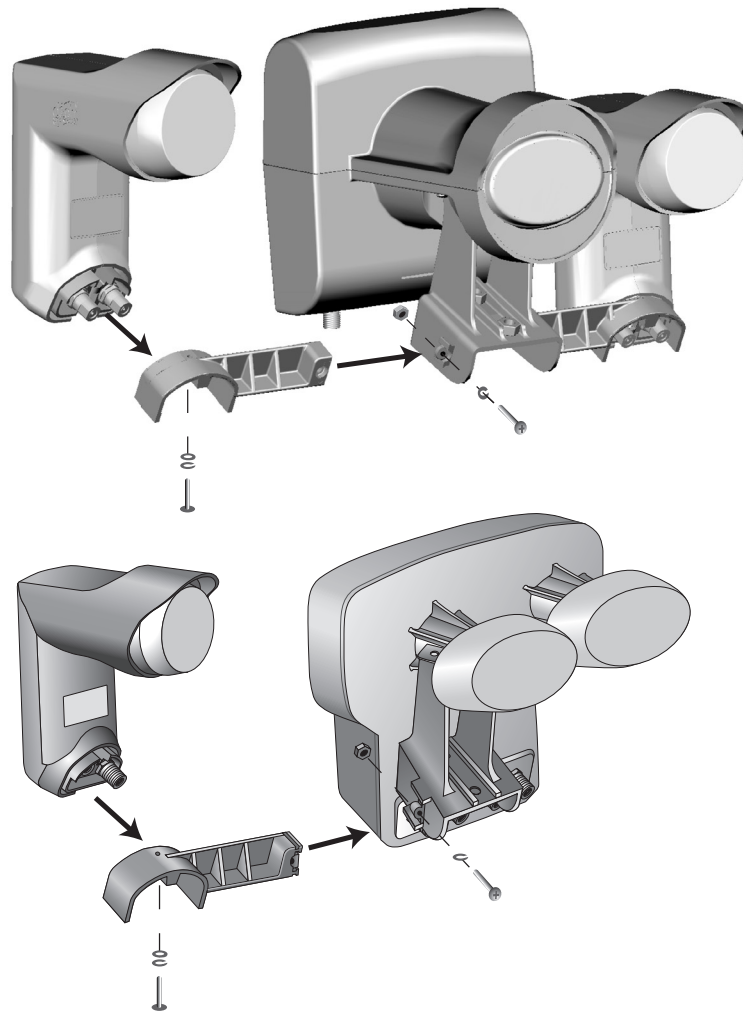

Figure 4. Optional bracket for attaching DP Dual (or DP Single) for 129°W
- 9. For DISH 1000+ installation, attach LNBF.** For DISH 1000+ installations, attach a separate DP Dual (or DP Single) to the 1000+ LNBF bracket using the included washers and screws. Slide the bracket onto the DP 500+ LNBF assembly. Place the nut into the retaining feature on the back of the assembly. Insert the screw from the front of the assembly and tighten according to the torque value (see Table 1 on page 9) to attach the bracket. See Figure 4.